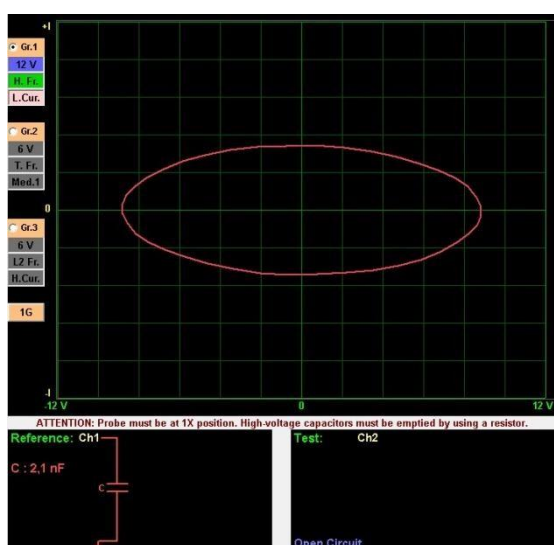

Figure 72: 1.8 nF Capacitor VI Graph
The Figures 72, 73, 74 and 75 show the Current/Voltage (VI) graphs, equivalent circuit diagrams and values for the capacitors.